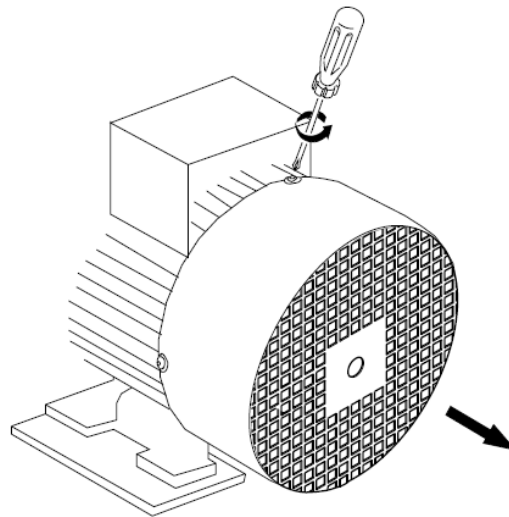

Figure 2: Removing the Fan Cover
1. Ensure that a section of the motor shaft extends outboard of the rear bearing of the motor (fan cooled motor). The installation of kit AGG5.305 is not possible if the shaft does not extend outboard of the rear bearing. Then, remove the fan cover as shown in Figure 2 below.